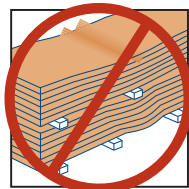

Fig. 2
- Keep stacked in bundles off the ground and supported by stickers spaced no more than 2.4 m apart. Be sure to line up the stickers between bundles with the ground stickers. This will allow for easy forklift access and provide air circulation. Misalignment of the stickers can damage the beams by creating a bow. (Fig. 2)